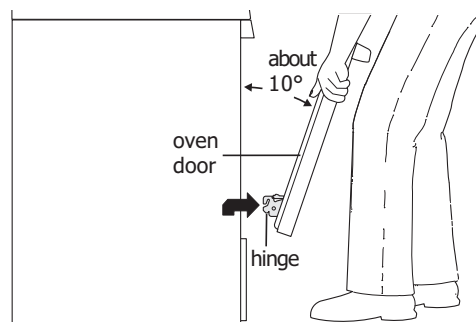
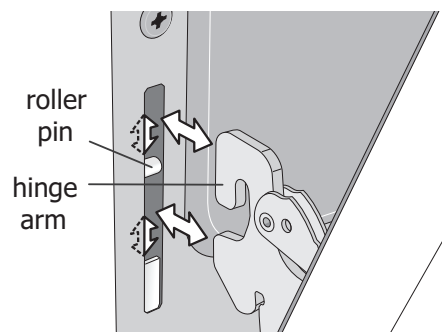

Figure 46: Holding door for removal
Figure 47: Location of hinge arm and roller pin
3. Firmly grasp both sides of oven door along the door sides. Do not use the oven door handle (See Figure 46).
4. Close the door to 10 degrees from the door frame (See Figure 46).
5. Lift the oven door hinge arms over the roller pins located on each side of the oven frame (See Figure 46).
1. Firmly grasp both sides of oven door along the door sides. Do not use the oven door handle (See Figure 46).
2. Holding the oven door at the same angle as the removal position (See Figure 46), seat the hook of the hinge arm over the roller pins located on each side of the oven door frame (See Figure 47). The hook of the hinge arms must be fully seated onto the roller pins.